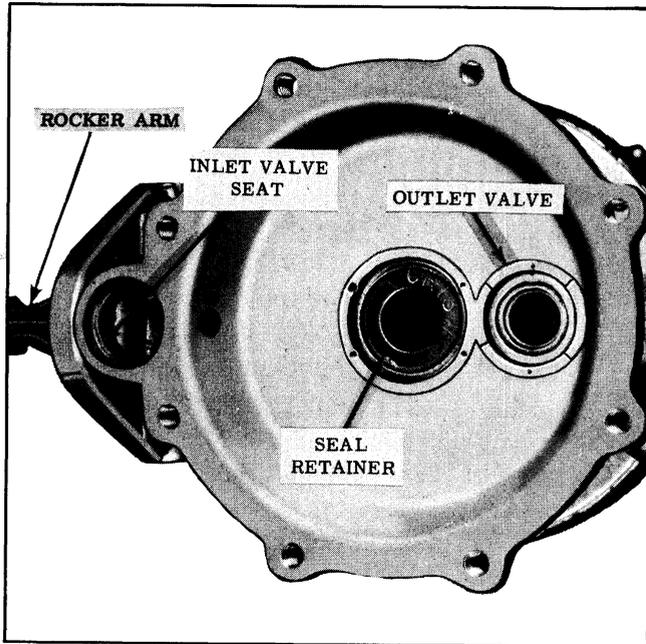

Fig. 8-74 Pump Body and Outlet Valve
5. If removed, install composition gasket and valve assembly with spring cage down in seat farthest away from rocker arm; then lightly stake in place. Do not install the inlet valve adjacent to rocker arm at this time. (See Fig. 8-74)